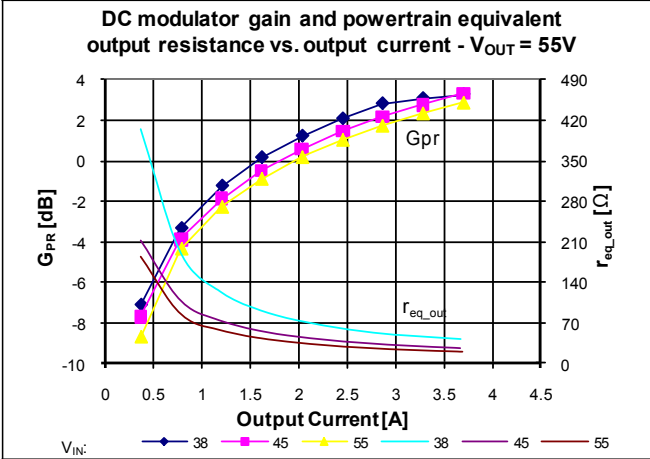

Figure 17 – Powertrain characteristics vs. I_{OUT} ; Resistive load, $V_{OUT} = 55\text{ V}$, various V_{IN}
The powertrain small signal (plant) response consists of a single pole determined by the load resistance, the powertrain equivalent output resistance, and the total output capacitance (internal and external to the module). Both the modulator gain and the equivalent output resistance vary as a function of line, load and output voltage, as shown in Figures 17, 18 and 19. As the load increases, the powertrain pole moves to higher frequency. As a result, the closed loop crossover frequency will be the
- >> Modulator Gain G_{PR} : See Figures 17, 18, 19
- >> Powertrain equivalent resistance r_{EQ} : See Figures 17, 18, 19